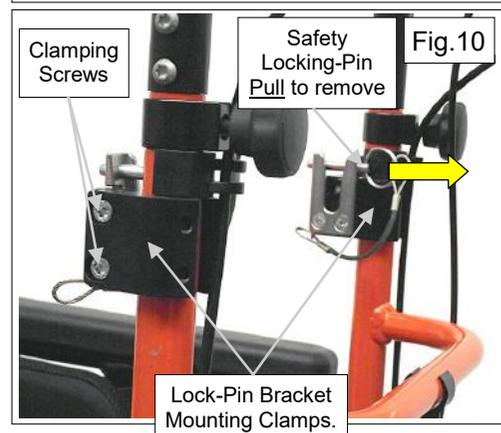

Fig.10
A minimum 50mm of straight Backrest Frame will be required to enable the Lock-Pin Bracket Mounting Clamps Fig.10. to be attached correctly.
- Separate the two halves of the Clamps by removing both clamping screws. Install the Lock-Pin Brackets onto the wheelchair backrest frames as Fig.10 and secure the Clamps just sufficient to maintain their positions on the frames. **DO NOT** fully tighten at this stage.
- Before fully tightening these screws, and those located in the Lock-Pin Bracket Mounting Clamps Fig.10, ensure the Backrest is correctly positioned with the Positive Locking mechanism fully engaged Fig.8 and both Upper Support Pins Fig.11 are fully engaged in their Mountings.